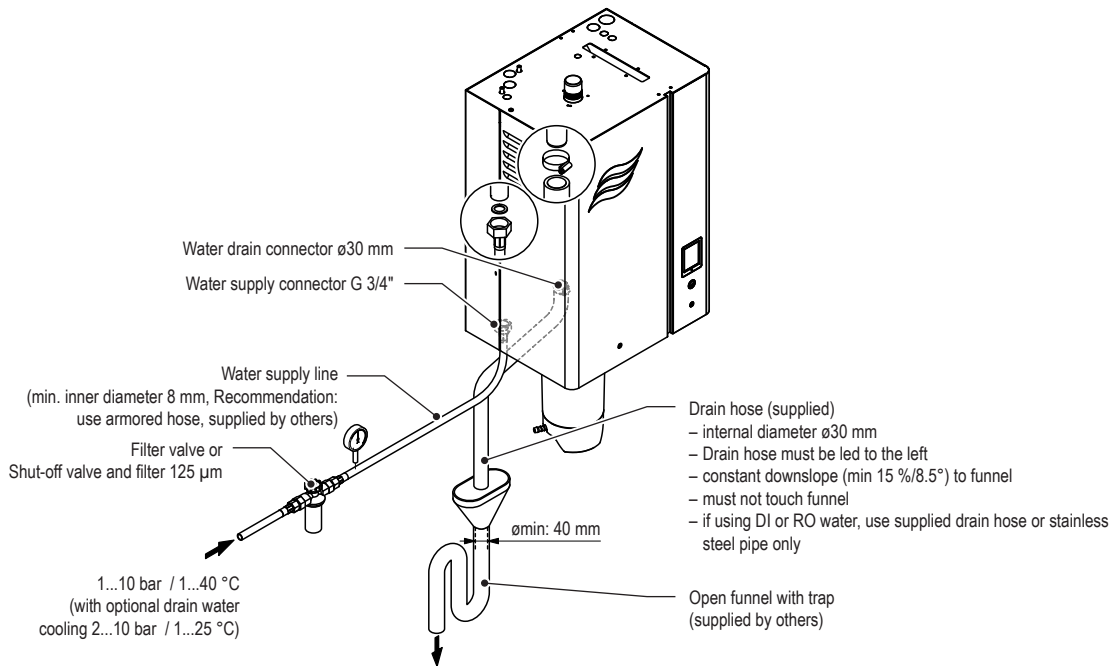

Abb. 19: Overview water installation for single units Small ("S") and Medium ("M")
- Always lead the supplied drain hose from the connector to the left down to the funnel (see Abb. 19).